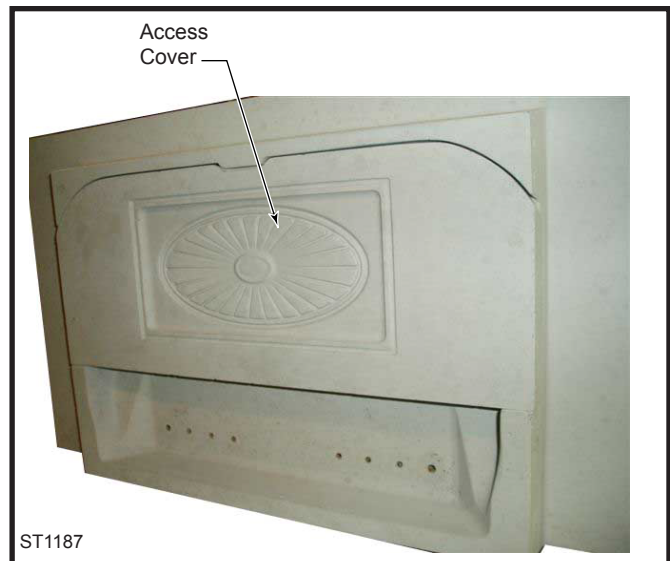

Fig. 28 Remove access cover.
1. Remove the access cover by gently lifting up and pulling out from the bottom edge. (Fig. 28)